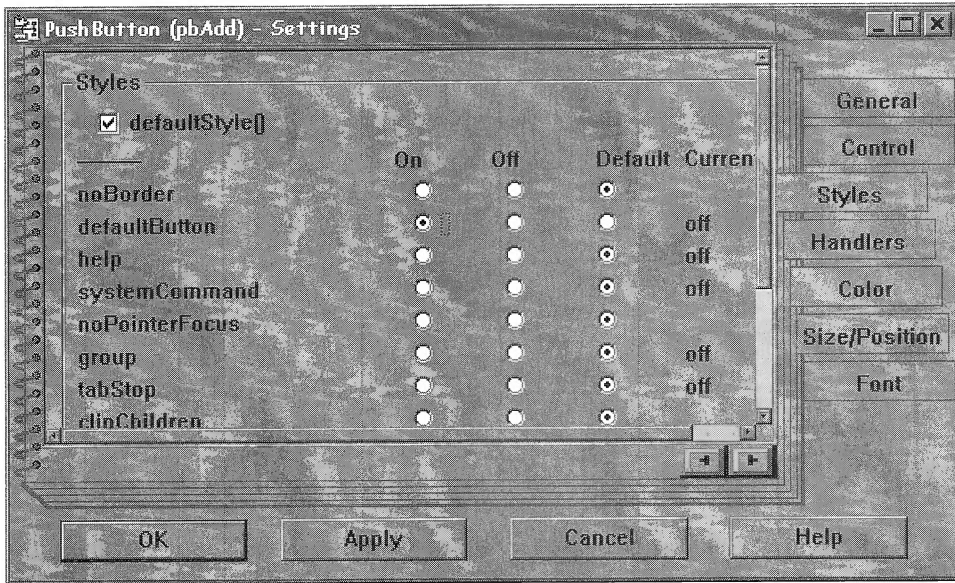

Figure 46: Settings notebook for pbAdd
- ❑ Double click on the **Add** button. This brings up a notebook where you can change the attributes of the **IPushButton** as seen in Figure 46.
Each window can have a default button, which is selected when the user presses the enter key. A well designed panel will have a default push button which recognizes when the **enter** key is pressed. Make the **Add** push button the default for this screen as seen in Figure 46.